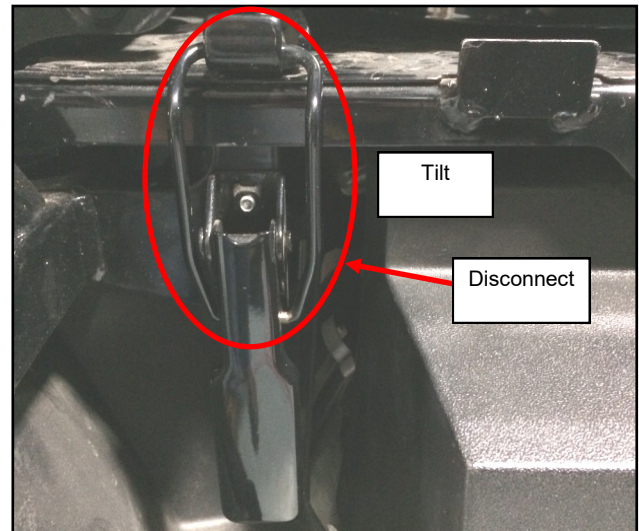

Fig. 2.1 (Tilt Seat Forward, Pro-FXT)
- 2.1 Disconnect the (2) latches on either side of the vehicle in front of the bed and tilt the back seat bottom forwards per fig 2.1.